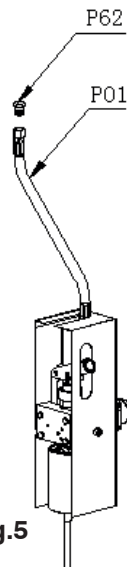

fig.5
2. Take off the plunger P62 from the Oil hose(P01) .(refer to fig.5)